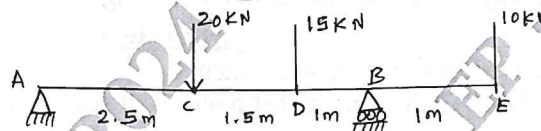

Fig.Q6(a)
- 6 a. Draw the shear force and bending moment diagram for beam shown in Fig.Q6(a) marking the salient points. Locate the point of contraflexure and point of maximum bending moment.